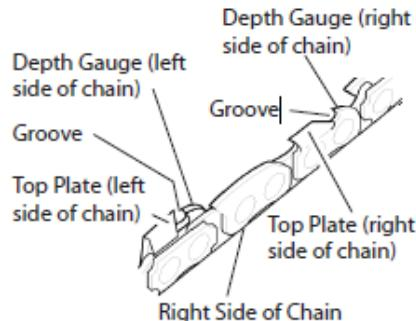

Fig. 13a
- 3) Rest a $5/32"$ round file (attached to a file guide) between top plate and depth guage, then sharpen the cutters as illustrated in Fig. 13a & 13b.